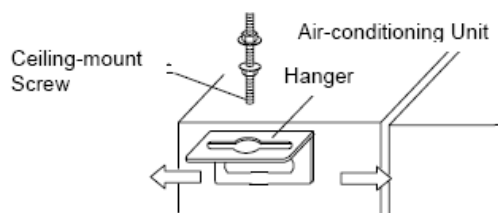
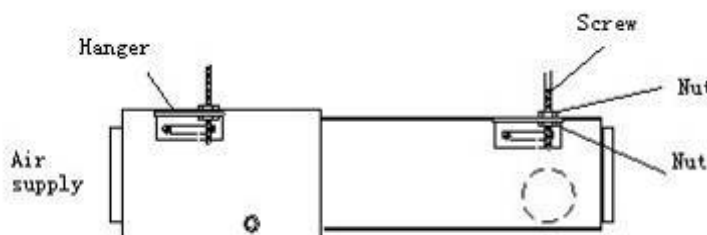

Figure 1-1-2
Figure 1-1-3
- 4) Install the hanger onto the indoor unit as Figure 1-1-2 and Figure 1-1-3 shows.